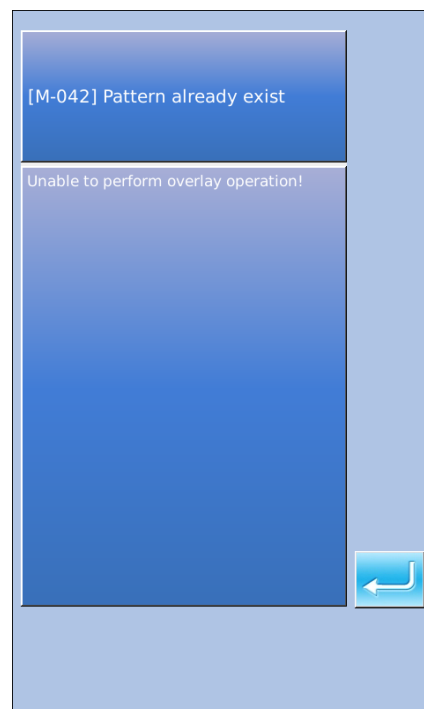

Figure 4
**Attention: If the selected pattern number exists in operation panel, the screen as the figure 4 will be displayed. If the data is in other format, the panel will automatically turn it to the vdt format and save it into memory.**